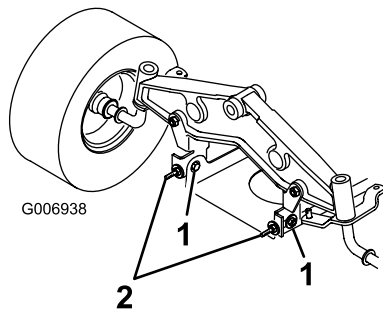

Figure 50
10. Slightly loosen the front pivot plate mounting bolts (Figure 50).
11. Rotate the locknuts on the eyebolts to change the adjustment (Figure 50).
12. After adjusting both of the eyebolt locknuts evenly, check the front-to-rear slope again. Continue adjusting the eyebolts until the front blade tip is 0 to 3/8 inch (0 to 9 mm) lower than the rear blade tip (Figure 50).
13. When the front-to-rear slope is correct, tighten the pivot plate mounting bolts (Figure 50).